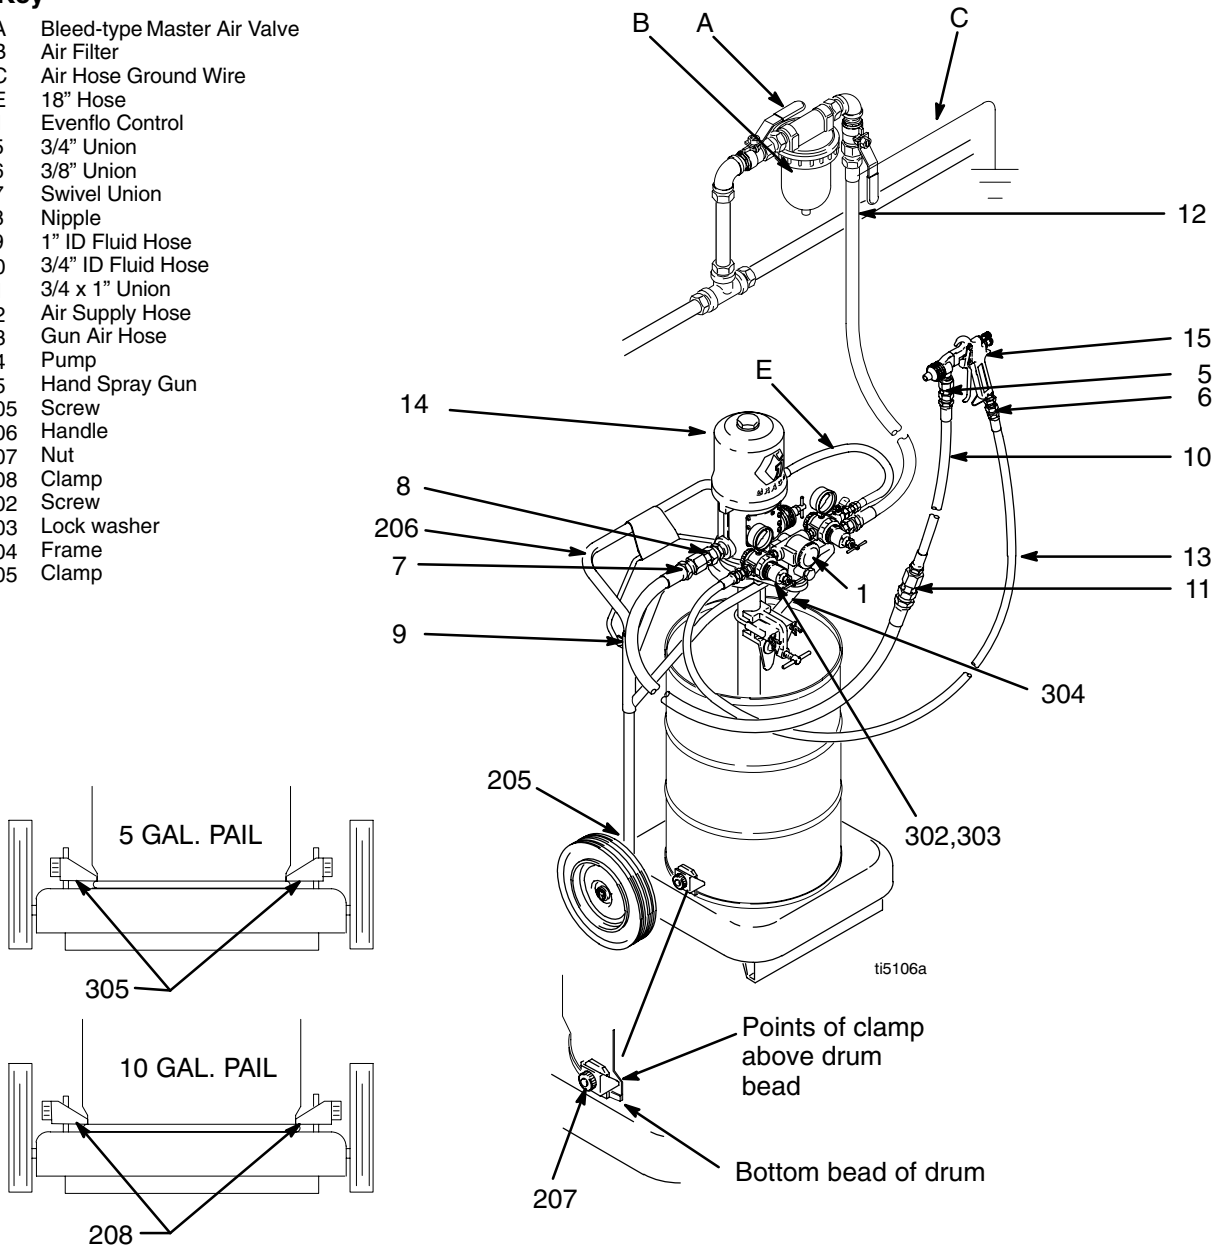
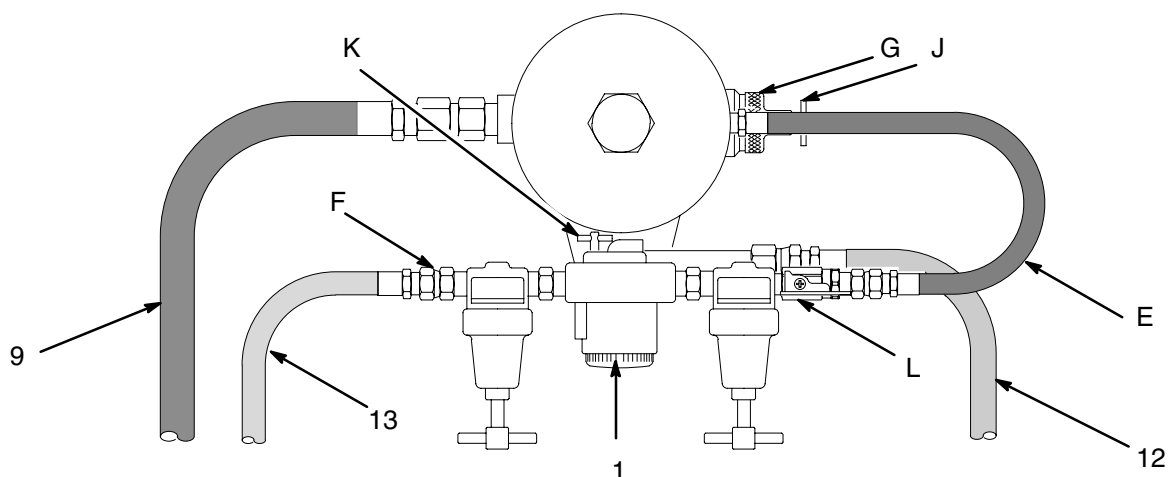

Fig. 2
Fig. 4
Slide the truck handle (206) through the elevator (304) slide tubes and into the truck base sockets. Tighten the setscrews (205) in the sockets as shown in Fig. 4.
Connect the air and fluid hoses to the Evenflo Control and the gun as shown in Fig. 2 and Fig. 4. Tape the air and fluid hoses every 18 in. (457 mm) for easier handling.
Remove the cover from a 5 or 10 gallon supply pail. Secure the pail to the truck base using the long clamps (305) for 5 gallon (19 liter) pails and the short clamps (208) for 10 gallon (38 liter) pails as shown in Fig. 2. Secure the thumbnuts (207).
Mixing by Circulation (Fig. 4)
Pump Operation (Fig. 4)